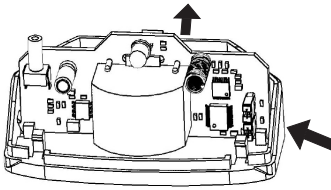

Figure 5
11.2 Insert a flat screwdriver between the PCB and the back wall of the base, depress the base wall and remove the PCB (Figure 5).